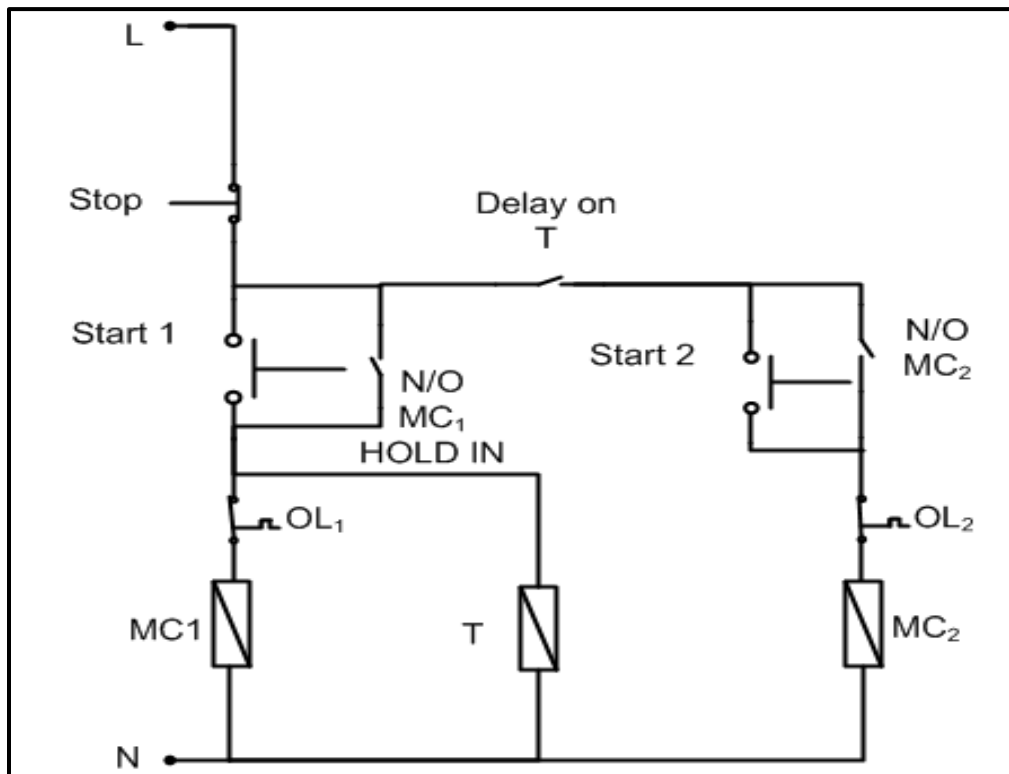

FIGURE 6.1: SEQUENCE STARTER WITH A TIMER
6.4 Refer to the circuit in FIGURE 6.1 below.
- 6.4.2 Name ONE electrical application of FIGURE 6.1. (1)